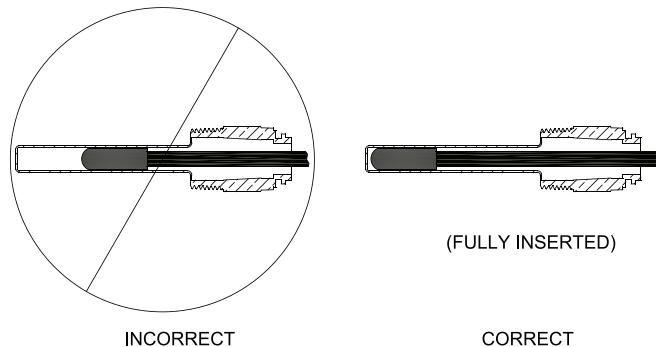

Figure 8: Limit Sensor Insertion
4. On boilers without a heater opening, install the well into the 3/4" NPT tapping "A" located on the front of the boiler in the upper left corner. See Figures 1A and 5. Tighten the well and fully insert limit sensor into immersion well such that the tip on the limit sensor touches the bottom of the immersion well. See Figure 8. Secure control to immersion well with setscrew.
5. On boilers with a heater opening, install the well in either the 1/2" NPT or 3/4" NPT tapping on the tankless heater plate or cover plate. See Figures 1B, 1C and 5. Tighten the well and fully insert limit sensor into immersion well such that the tip on the limit sensor probe touches the bottom of the immersion well. See Figure 8. Secure control to immersion well with setscrew.